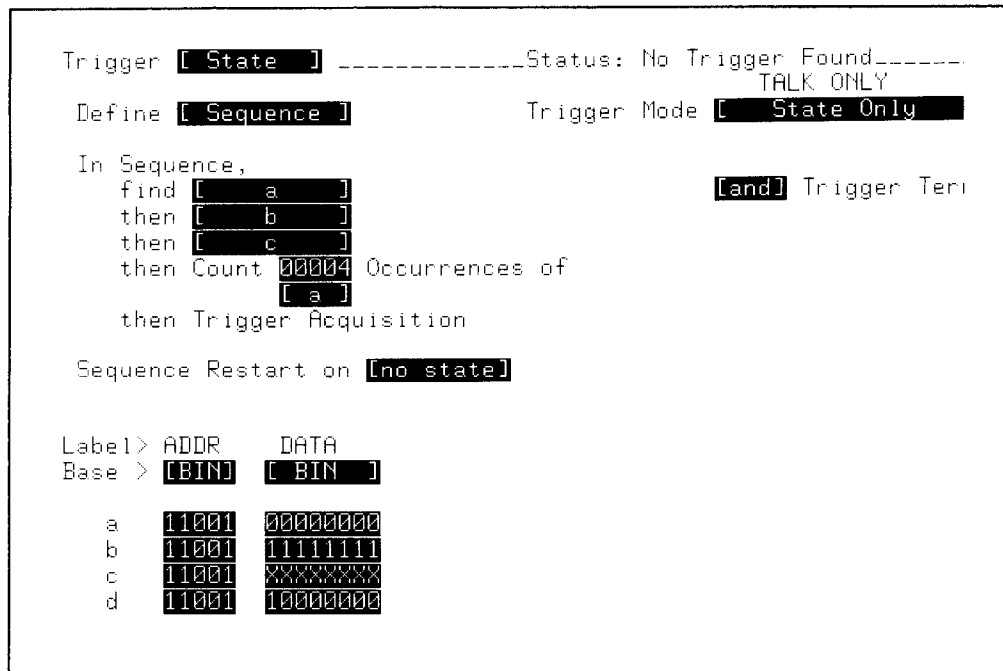

Figure 3-18. Example State Trigger Sequence Menu
**State Trigger Sequence Menu (Figure 3-18).** The Sequence function sets up a sequence of state terms that determines the state trigger condition.